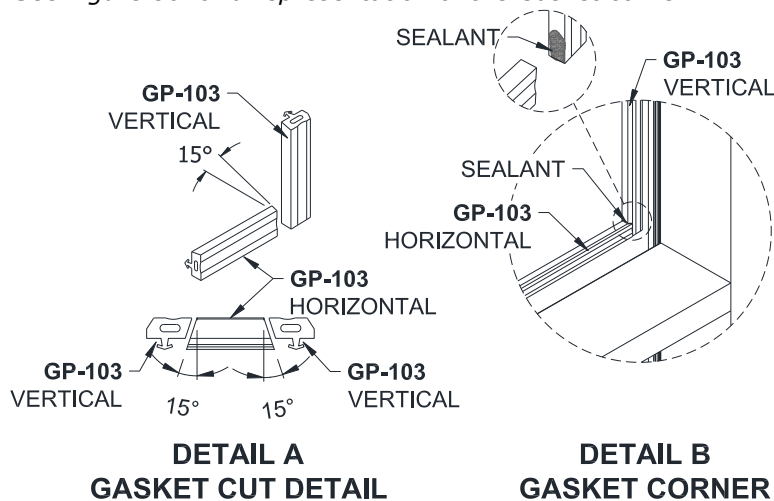

Figure 86: Fixed Gasket Installation (Interior Glazing Shown, Exterior Glazing Similar)
27.2 Cut Fixed Gasket per material cut list on *Page 11*, miter the ends on the horizontals at a 15° angle, as shown in *Figure 86, Detail A*, to assure a proper seal.
Note: When installed, vertical Gasket runs through while horizontal Gasket butts into vertical Gasket. See *Figure 86* for a representation of the Gasket corner.
27.5 Pull back the horizontal gasket at the corners and apply Sealant to the connection between the horizontal and vertical gaskets. Reference *Figure 86, Detail B*, for a visual. Clean any squeeze out immediately.